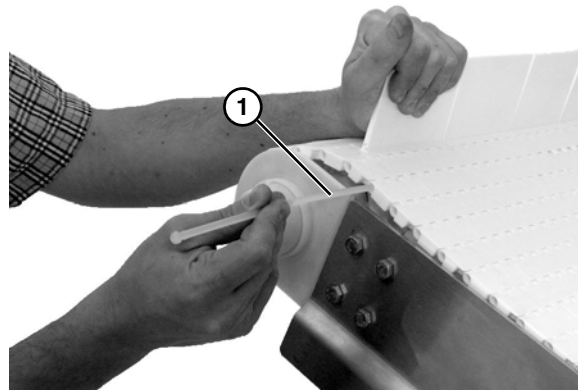

Figure 17
6. Insert the belt rod (**Figure 17, item 1**).